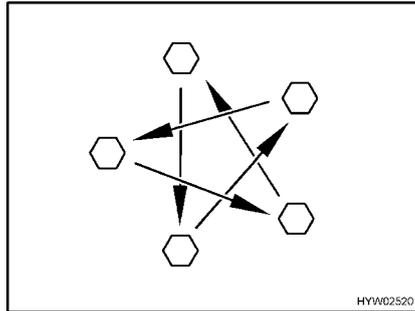

Fig. 298 Tighten the wheel nuts or wheel bolts cross-wise
- Check regularly that the wheel nuts or wheel bolts are firmly seated. Re-tighten the wheel nuts or wheel bolts of a changed wheel after 50 km (30 miles) (Fig. 298).
- When using new or newly painted rims, re-tighten the wheel nuts or wheel bolts once again after approx. 1,000 to 5,000 km (600 miles to 3,000 miles) (Fig. 298).
- ▷ Tighten the wheel nuts or wheel bolts cross-wise (Fig. 298).